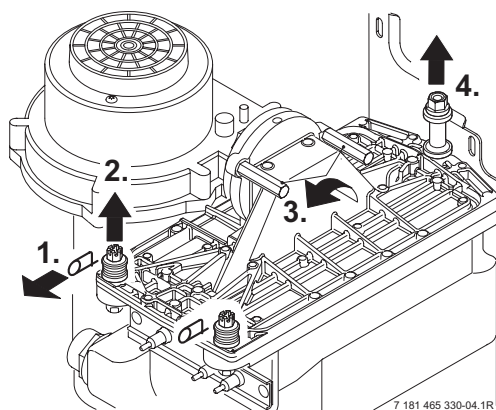

Fig. 52
- ▶ Remove the clips (1) and unscrew the two bolts (2). Refer to fig. 52.
- ▶ Unscrew and remove the two hexagon screws securing the fan (3).
- ▶ Slacken fully the rear securing bolt (4).